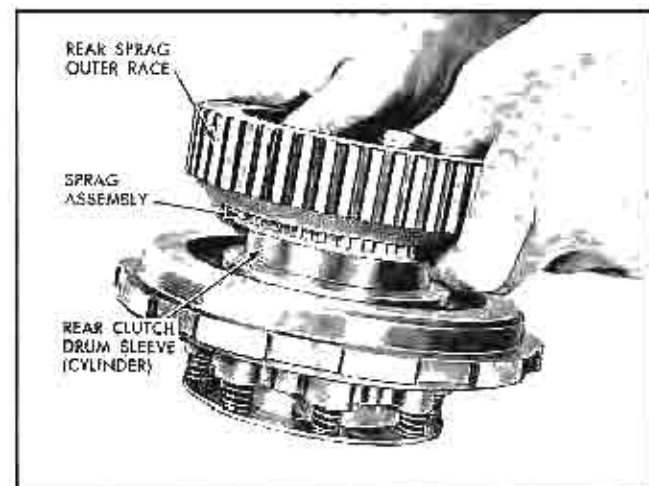

Fig. 76 Removing Rear Unit Sprag Assembly
21. Remove outer race, sprag, and retainer by rotating counterclockwise and pulling upward (Fig. 76).